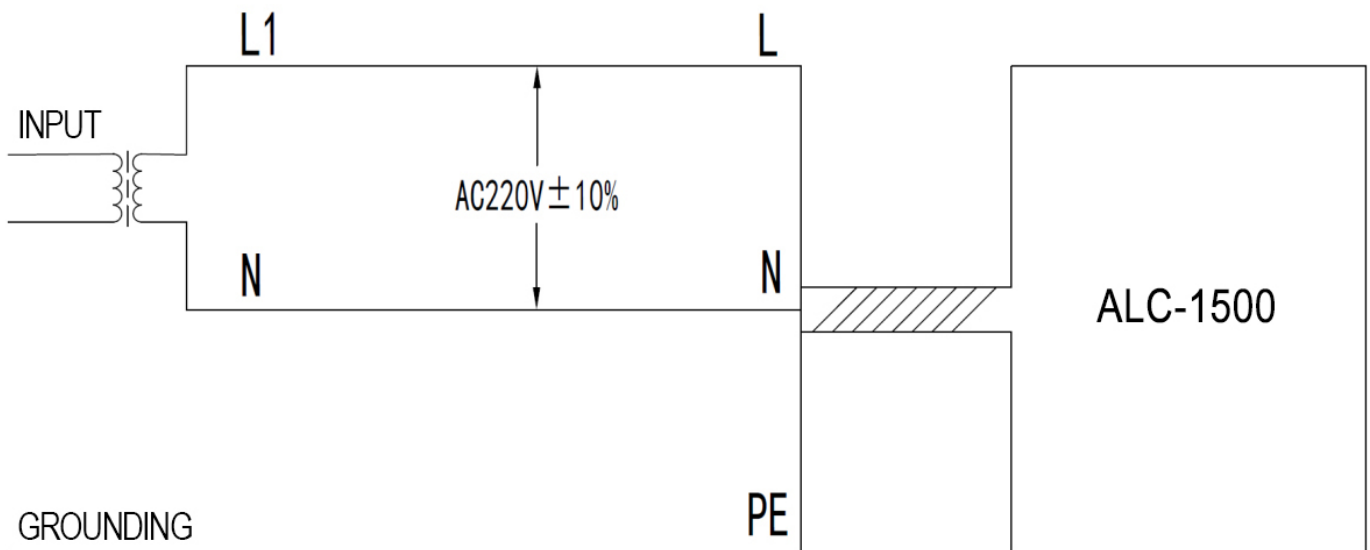

Figure 3: Wiring Diagram of ALC-1500
- 1.1. Connect the power cord, ensuring proper grounding. Connect the L (live), N (neutral), and PE (ground) wires to their corresponding terminals on the main power supply. Refer to Figure 3.